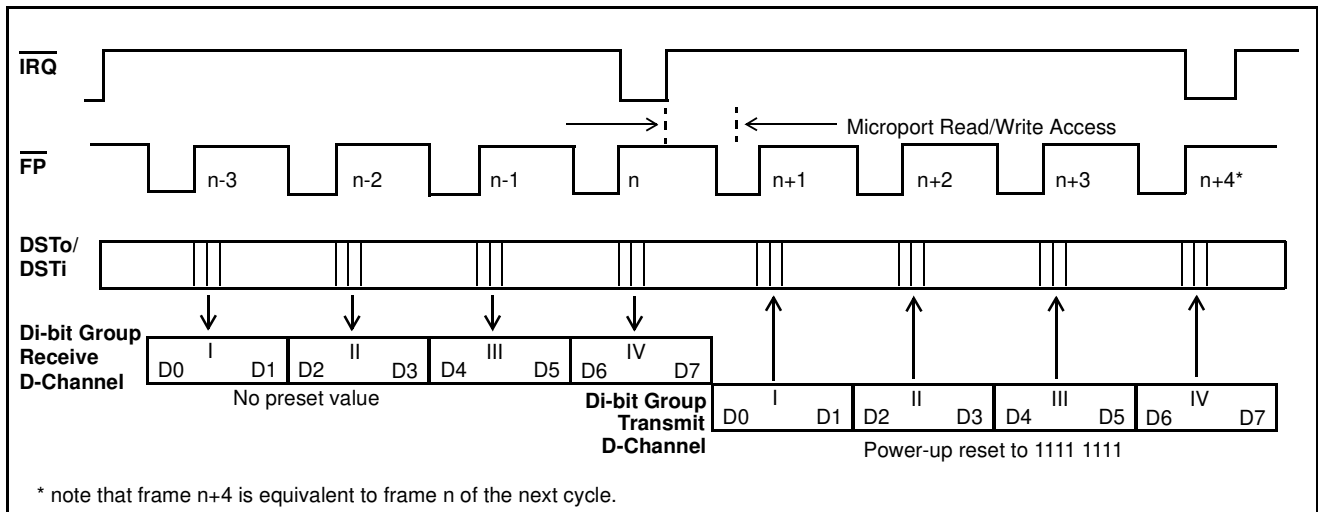

Figure 8a - D-Channel 16 kb/s Operation
- a. A microport read of address 15 hex will result in a byte of data being extracted which is composed of four di-bits (designated by roman numerals I,II,III,IV). These di-bits are composed of the two D-Channel bits received during each of frames n, n-1, n-2 and n-3. Referring to Fig. 8a: di-bit I is mapped from frame n-3, di-bit II is mapped from frame n-2, di-bit III is mapped from frame n-1 and di-bit IV is mapped from frame n.
- b. A microport write to Address 15hex will result in a byte of data being loaded which is composed of four di-bits (designated by roman numerals I, II, III, IV). These di-bits are destined for the two D-Channel bits transmitted during each of frames n+1, n+2, n+3, n+4. Referring to Fig.8a: di-bit I is mapped to frame n+1, di-bit II is mapped to frame n+2, di bit III is mapped to frame n+3 and di bit IV is mapped to frame n+4.